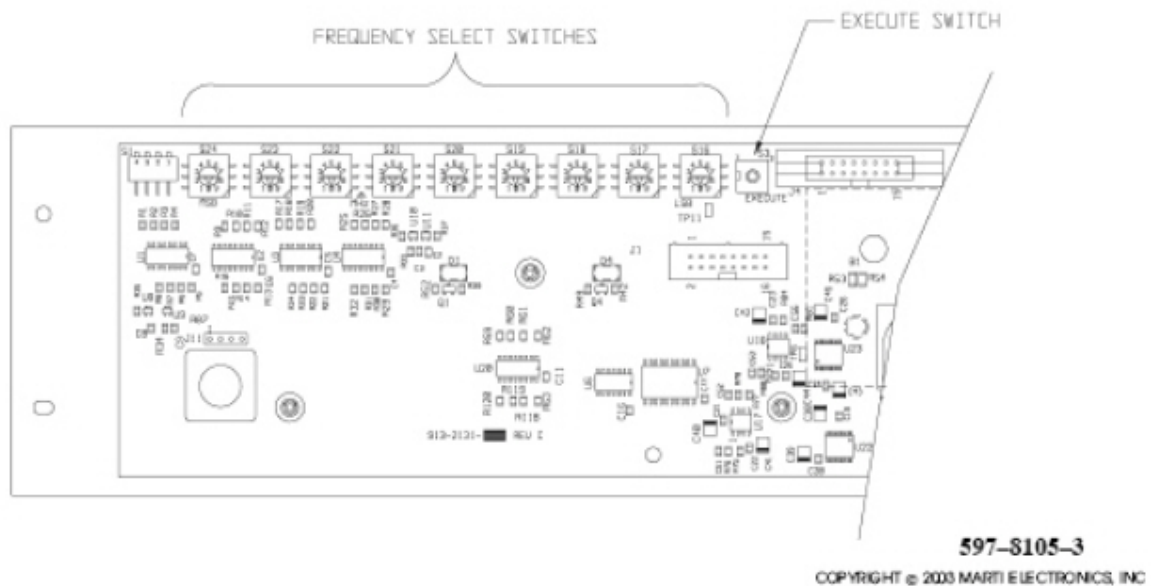

Figure 4-1: Frequency Select Switches and Execute Switch
A. Determine the operating frequency. Use the frequency select switches to enter the frequency (refer to Figure 4-1).